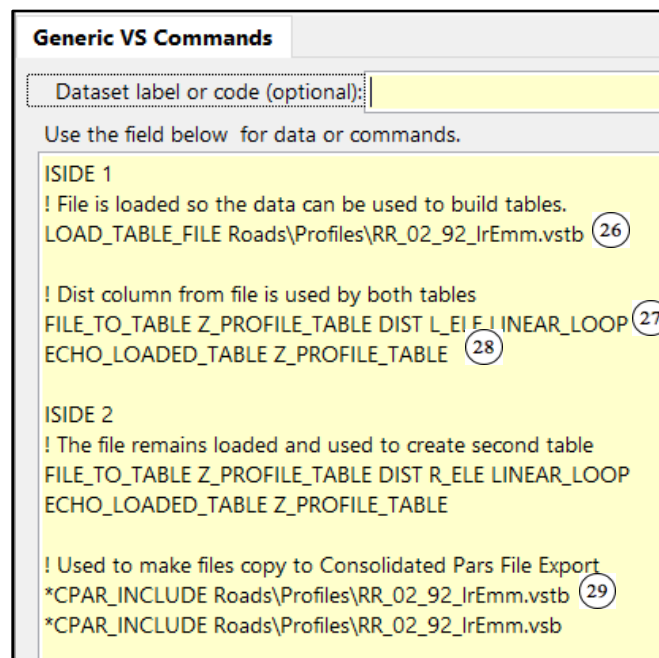

Figure 15: VS Commands Dataset with a Road: Surface Roughness profile loaded from VS Table data
Like the Engine Map data from the **VS Table Engine Map: Torque vs. Speed** example, the surface roughness VS Table data are loaded using VS Commands in a Generic VS Commands Dataset (25) (Figure 15).
Figure 15 details the VS Commands used to load the 1-D profile information. The VS Commands used are detailed below:
The results of the **Baseline (loaded road profile)** example can be directly compared to the **Baseline (nominal)** example, and it is clear that the (vertical force) outputs are identical (Figure 15).